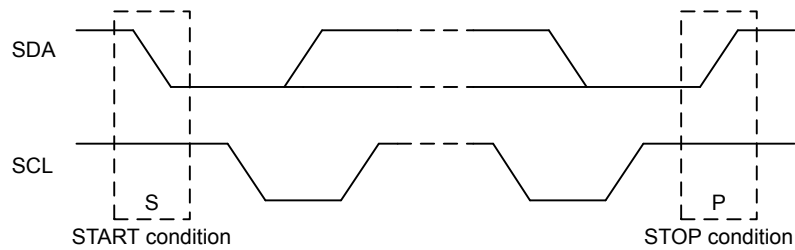

Figure 17.4. I2C START and STOP Conditions
START and STOP conditions are used to initiate and stop transactions on the I²C-bus. All transactions on the bus begin with a START condition (S) and end with a STOP condition (P). As shown in Figure 17.4 I2C START and STOP Conditions on page 479, a START condition is generated by pulling the SDA line low while SCL is high, and a STOP condition is generated by pulling the SDA line high while SCL is high.